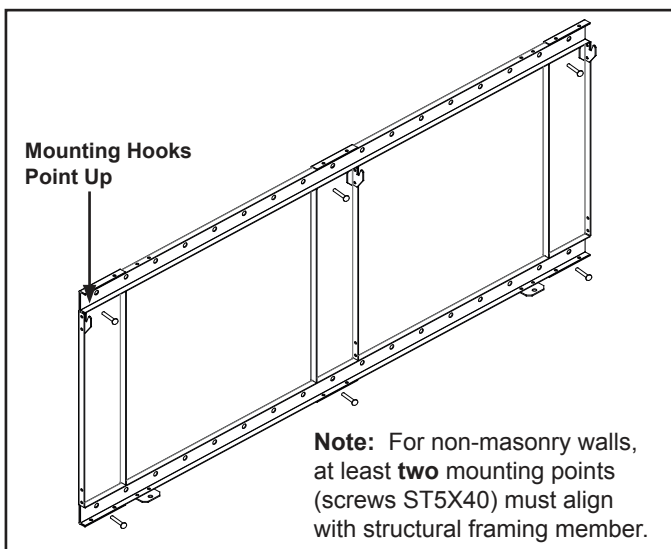

Figure 4.12 Bracket Attachment
- With mounting hooks pointed up, attach the bracket to the masonry anchors with ST5X40 screws. See Figure 4.12.